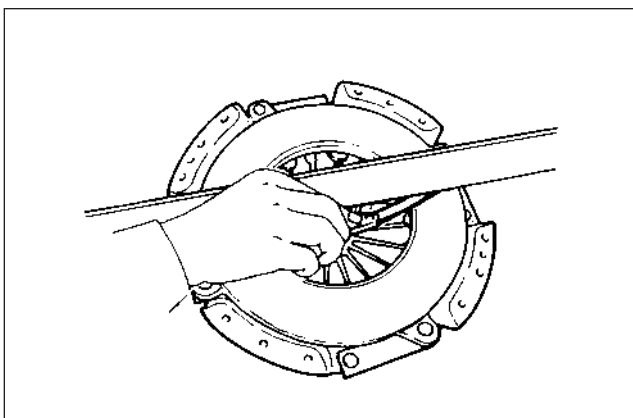

Figure 10. Pressure plate wear.
Measure (Figure 10, 11, 12, 13, 14, 15 and 16)
- Pressure plate wear (figure 10).